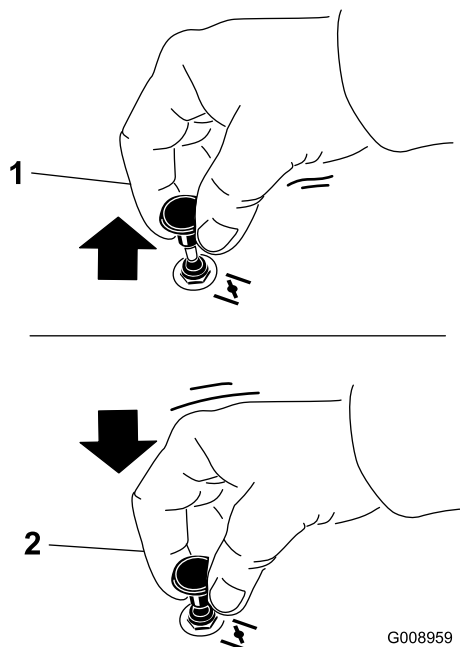

Figure 17
2. Pull up on the choke knob to engage the choke before using the ignition switch (Figure 17).
3. Push down on the choke to disengage the choke after the engine has started (Figure 17).